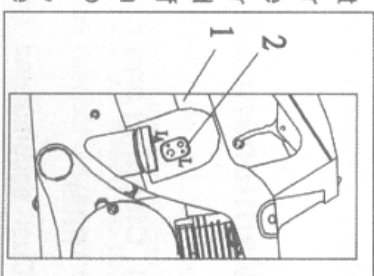

Fig. 9
The carburetor has been preset and adjusted at the factory to reach the optimum fuel-air mixture for a smooth, fuel efficient, reliable running engine with low emission. The air filter and the spark plug need to be checked and maintained regularly. However if the cut-off saw is found to be unsatisfactory in operation (such as the idle speed either too high or too low, or abnormal exhaust emission still persist), a slight adjustment on the carburetor might be necessary, which includes: (Ref. Fig. 9)
Find the Low Speed Adjusting Screw "L" (see Fig.9, inside the upper hole of the carburetor seal cover), use a screwdriver to turn the screw L clockwise all the way to its end. Then turn the screw L backwards (counter-clockwise) 360°.
- If the idle speed is too low, the engine may shut off after starting. In this case, make the standard setting first as instructed in (a), then turn the idle speed adjusting screw LA (see Fig 9,) inside the lower hole of carburetor seal cover clockwise until the blade starts to run. Then turn the screw LA backwards (counter-clockwise)  $1/4$  circle ( $90^\circ$ ).